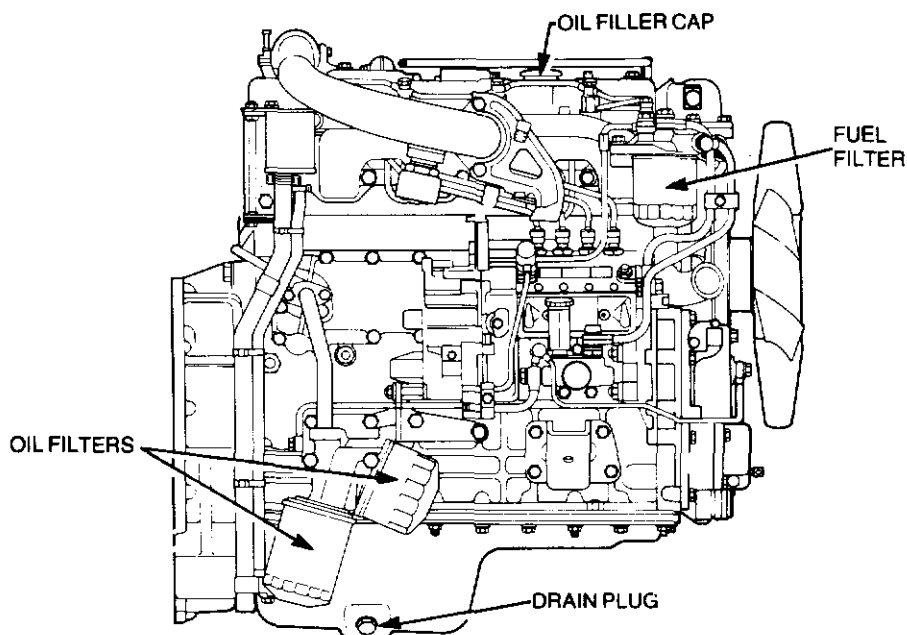

Figure 3-5 Engine — right hand side
**322.** Run the engine until the engine coolant reaches normal operating temperature then shut down the engine. Remove the engine oil pan drain plug (see Fig. 3-5) and drain the oil into a suitable receptacle before the engine cools. Fit a new sealing washer on the drain plug and install the drain plug.